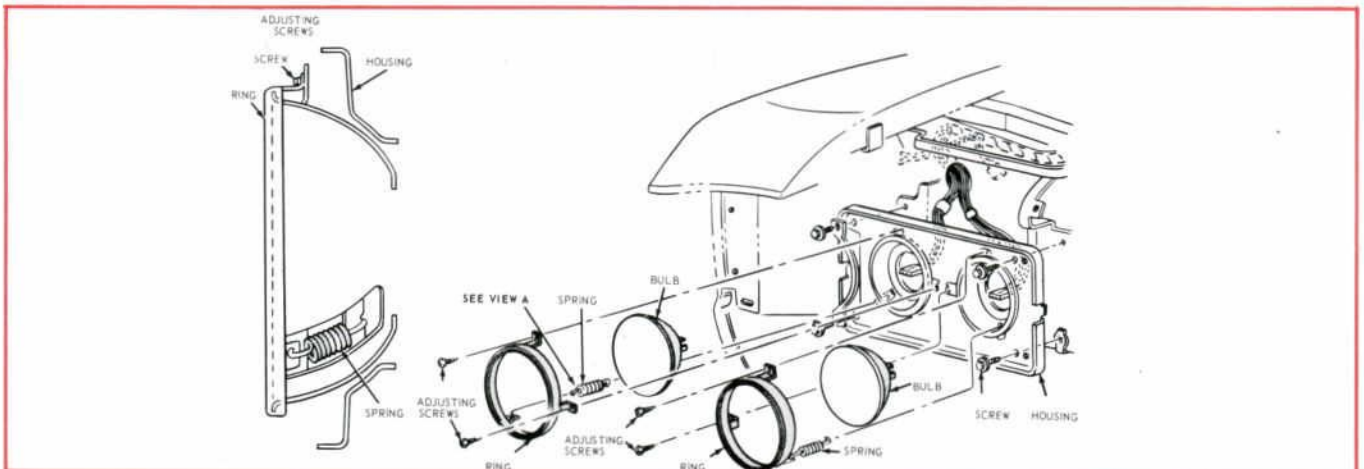

Figure 3—The Dual Headlight Arrangement on Ford-Built passenger cars. All except Mustang, Maverick and Comet models.
The Maverick, Comet and Mustang use TWO No. 2 sealed-beam headlights. Each of these lights has a low-beam and a high-beam filament. On all other Ford-built car lines, FOUR sealed-beam headlights are used. See Figure 3.
2. Unhook the spring from the tab on the bulb retainer ring while holding a hand over the headlight assembly to steady it. See Figure 3. Remove the two retainer ring screws and remove the retainer ring from the headlight bulb.